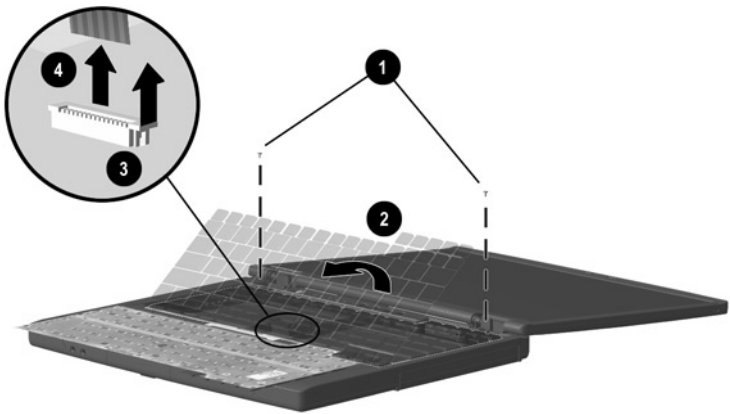

Figure 5-4. Removing the Keyboard
3. Remove the two pewter M2.5 × 7.0 screws ❶ that secure the keyboard to the top cover (Figure 5-4).
4. Lift up the back edge of the keyboard and swing it up and forward ❷ until it rests on the top cover.
5. Release the zero insertion force (ZIF) connector ❸ to which the keyboard cable is connected and disconnect the keyboard cable ❹.